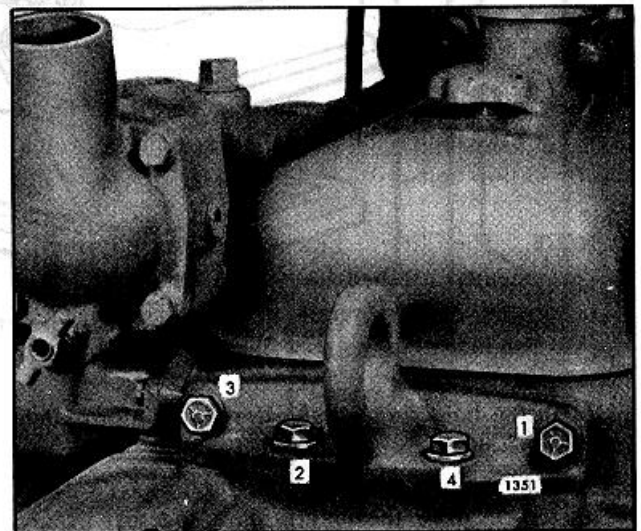

Fig. 2. Typical Installation of Lifter Bracket and Bolt Tightening Sequence.
4. Install the bolts finger tight, draw them down snug and then tighten to the specified torque. Draw the bolts down in the proper sequence (Fig. 2) for each of these steps to draw the mating parts together evenly, thus providing a good seal. Tighten the bolts to 55-60 lb-ft (75-81 Nm) torque.